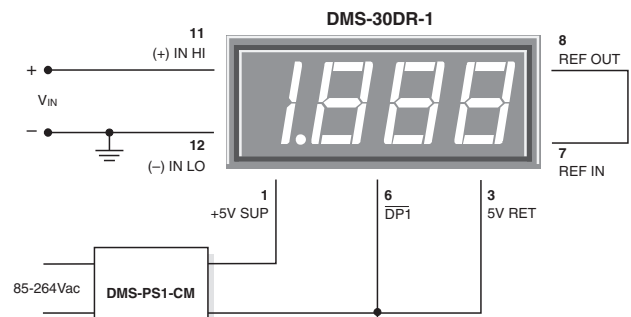

Figure 2: Single-Ended Input Configuration
1. Single-Ended Input Configurations: True single-ended measurements can be made with any DMS-30DR meter. The circuit of Figure 2 avoids problems normally associated with ground-loop currents. Separate ground runs should be used for 5V RETURN (pin 3) and (–) INPUT LO (pin 12). This will ensure that large LED currents will not flow in the wiring that connects V_{IN} to (–) INPUT LO (pin 12). Ground-loop currents can cause unstable readings.